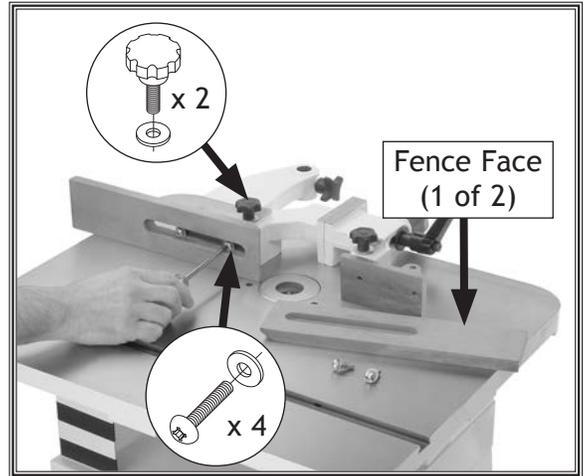

Figure 10. Installing fence faces.
- Use (2) 8mm fender washers and M8-1.25 star knobs to tighten fence assembly to table, as shown in **Figure 10**.
- Using (4) M8-1.25 x 20 Phillips head screws and $\frac{3}{8}$ " flat washers, install each fence face to fence mount brackets, as shown in **Figure 10**.